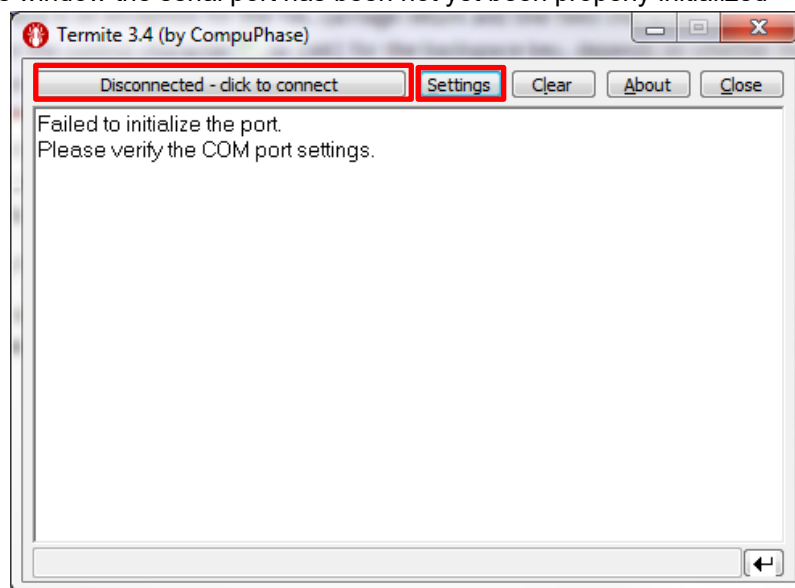

Fig. 14: Termite Power-Up Window – Port Not Connected
2. Open the Termite program, as shown in Fig. 14